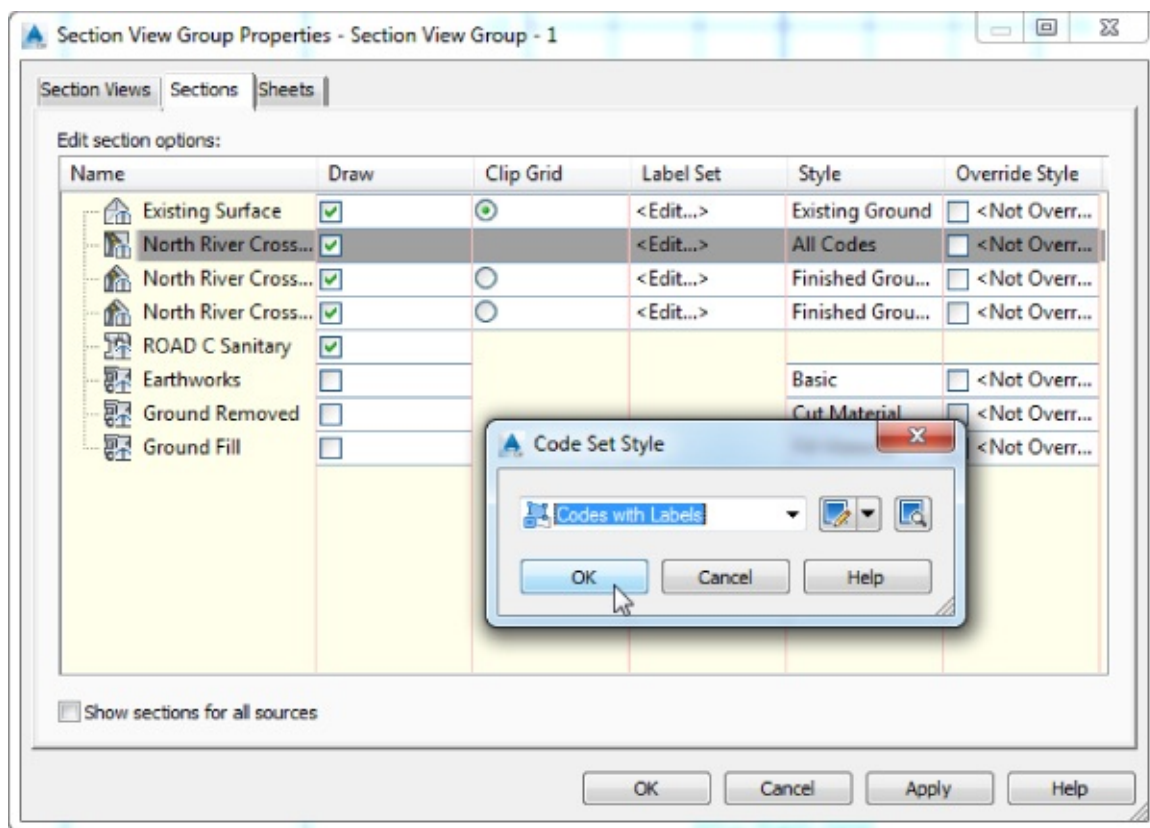

Figure 12.22 Changing the active code set style for all views in the group
5. Click the field again to switch the style to Codes With Labels from the drop-down list, as shown in Figure 12.22, and click OK to dismiss the Code Set Style dialog. Click OK once more to dismiss the Section View Group Properties dialog. Press Esc to deselect the selected section view.